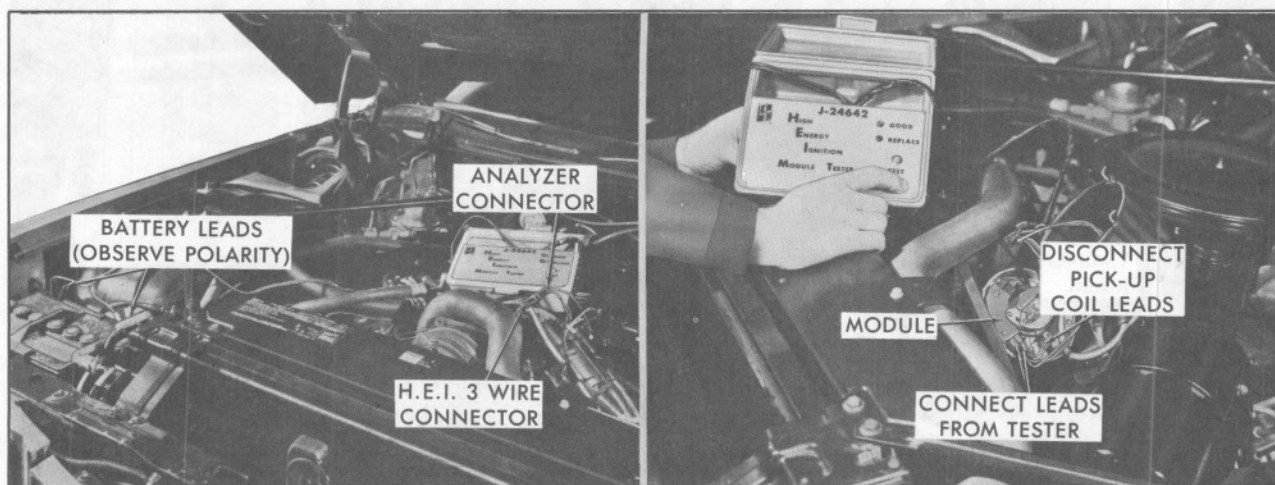

Fig. 6-5 Testing HEI Module
6. Install magnetic pickup in receptacle of timing tab and press down firmly to contact the pulley surface, Fig. 6-5.
2. Connect analyzer J-24642 to 3-wire connector, Fig. 6-5.
3. Connect analyzer leads to battery, Fig. 6-5. Observe polarity.